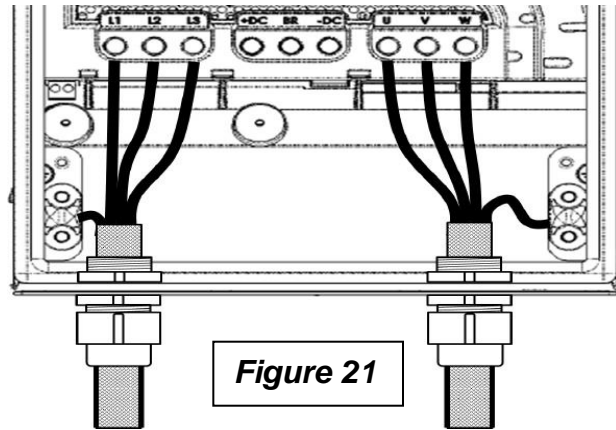

Figure 21
1. Wire the VFD as shown in figure 21.